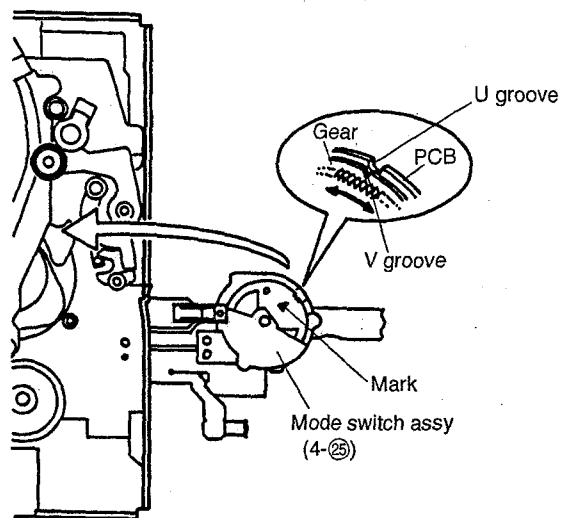

Fig. 6
7. Installing Mode switch assy (4-25)(See Fig. 6.)